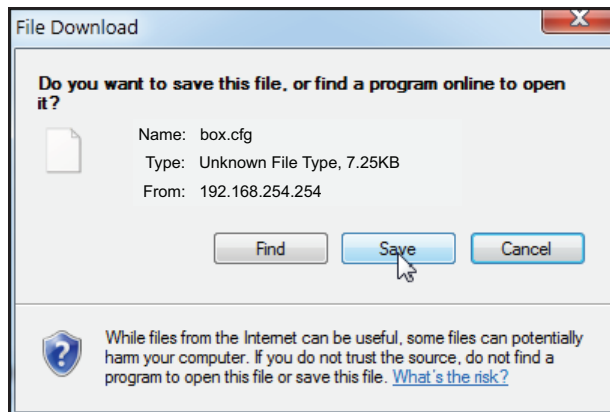

Figure 64. File Download Dialog Box
3. The File Download dialog appears (see figure 64).